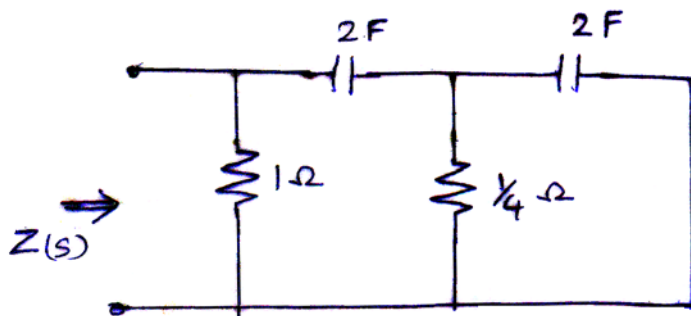

Figure 2 Q. 2(b)
b) For the network shown in figure 2 find the driving point function $z(s)$. Plot the poles and zeros of $z(s)$ on S plane.